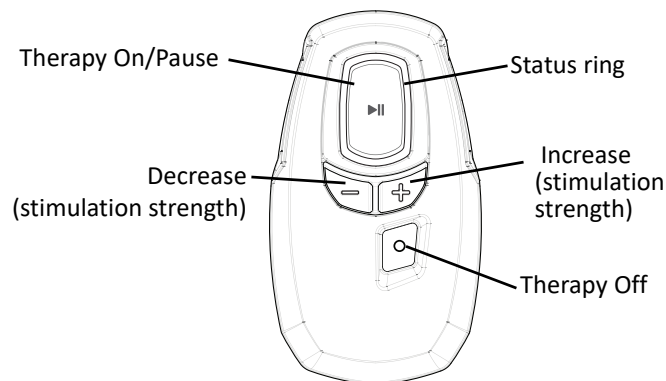
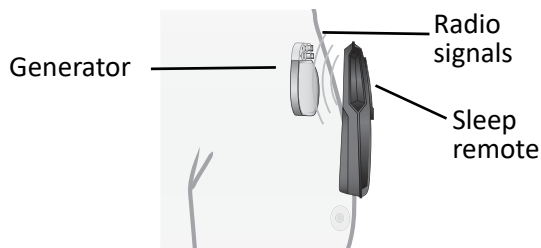

Figure 3. Sleep remote front view
Figure 4. Communication between sleep remote and generator
1. Using the patient's sleep remote, find the Therapy On/Pause button as shown in Figure 3.
2. Activate therapy by pressing the Therapy On/Pause button and holding the remote over the Inspire generator as shown in Figure 4.
4. Turn the patient's therapy off by pressing the Therapy Off button as shown in Figure 3 and holding the remote over the Inspire generator as shown in Figure 4.